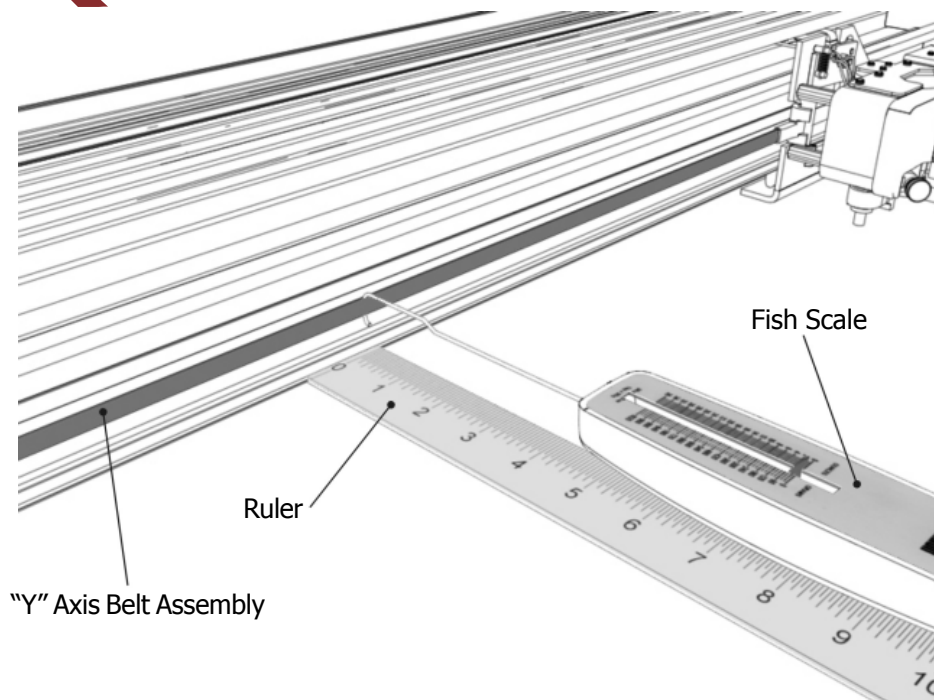

Fig. 5-9 Tensioning the "Y" axis belt assembly
7. Follow the procedures in reverse order to remount the new motor, then adjust the belt tension. See *Fig. 5-9 & 5-10 on Pg. 76*
11. To make sure the belt has the proper tension, use a fish scale that measures in Grams. place the hook (on the fish scale) around the belt. See *fig 5-9*.
12. Place a ruler on the bottom of the traverse extrusion, See *fig 5-9*.